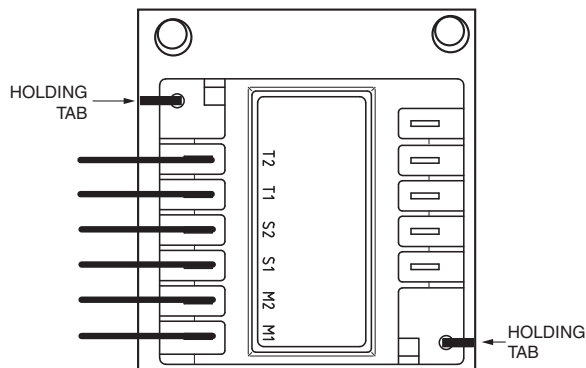

Fig. 51 — Kriwan Motor Protection Module Removal
4. Gently bend the holding tabs holding the Kriwan module in the terminal box and remove the Kriwan module from the terminal box. See Fig. 51.